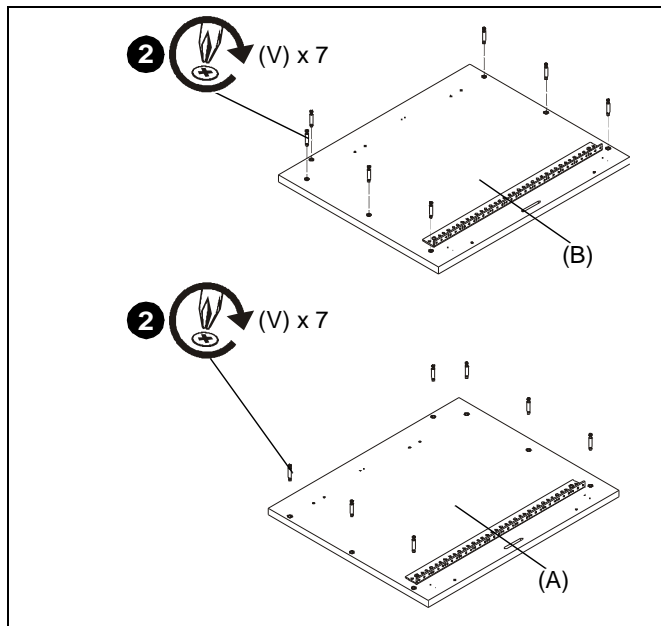

Figure 2
2. Screw seven connecting bolts (V) into each side panel (A and B). (See Figure 2)